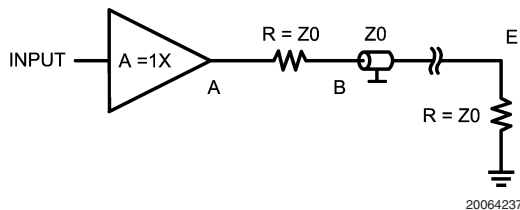
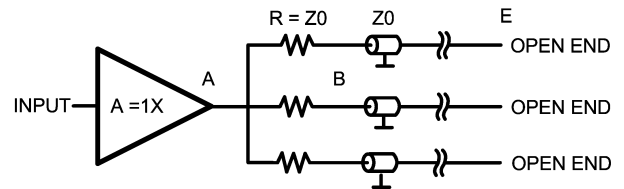
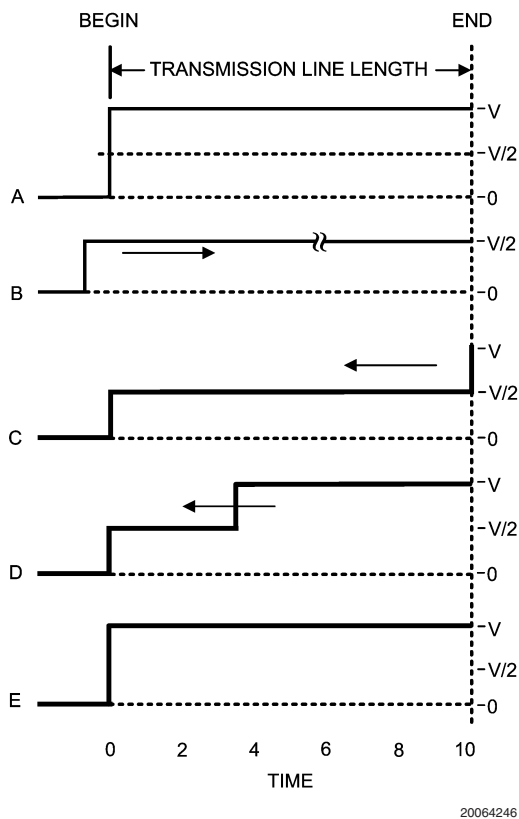

FIGURE 1.
FIGURE 3.
FIGURE 6.
- Use one buffer to drive one transmission line (see *Figure 1*)
- Use one buffer to drive several transmission lines each driving a different receiver. (see *Figure 3*)
In most cases, it is unrealistic to think that we can place a driver or buffer so close to the load that we don't need a transmission line to transport the signal. The pcb trace length between a driver and the load may affect operation depending upon the operating frequency. Sometimes it is possible to do measurements by connecting the DUT directly to the analyzer. As frequencies become higher the short lines from the DUT to the analyzer become long lines. When this happens there is a need to use transmission lines. The next point to examine is what happens when the load is connected to the transmission line. When driving a load, it is important to match the line and load impedance, otherwise reflections will occur and this phenomena will distort the signal. If a transient is applied at $T = 0$ (*Figure 6*, trace A) the resultant waveform may be observed at the start point of the transmission line. At this point (begin) on the transmission line the voltage increases to (V) and the wave front travels along the transmission line and arrives at the load at $T = 10$. At any point across along the line $I = V/Z_0$, where Z_0 is the impedance of the transmission line. For an applied transient of 2V with $Z_0 = 50\Omega$ the current from the buffer output stage is 40mA. Many vintage op amps cannot deliver this level of current because of an output current limitation of about 20mA or even less. At $T = 10$ the wave front arrives at the load. Since the load is perfectly matched to the transmission line all of the current traveling across the line will be absorbed and there will be no reflections. In this case source and load voltages are exactly the same. When the load and the transmission line have unequal values of impedance a different situation results. Remember there is another basic which says that energy cannot be lost. The power in the transmission line is $P = V^2/R$. In our example the total power is $2^2/50 = 80\text{mW}$. Assume a load of 75Ω. In that case a power of 80mW arrives at the 75Ω load and causes a voltage of the proper amplitude to maintain the incoming power.
Many applications, such as video, use a series resistance between the driver and the transmission line (see Figure 1). In this case the transmission line is terminated with the characteristic impedance at both ends of the line. See Figure 6 trace B. The voltage traveling through the transmission line
Another way to reach several points via a transmission line is to start several lines from one buffer output (see Figure 3). This is possible only if the output can deliver the needed current into the sum of all transmission lines. As can be seen in this figure there is a series termination used at the beginning of the transmission line and the end of the line has no termination. This means that only the signal at the endpoint is usable because at all other points the reflected signal will cause distortion over the line. Only at the endpoint will the measured signal be the same as at the startpoint. Referring to Figure 6 trace C, the signal at the beginning of the line has a value of $V/2$ and at $T = 0$ this voltage starts traveling towards the end of the transmission line. Once at the endpoint the line has no termination and 100% reflection will occur. At $T = 10$ the reflection causes the signal to jump to $2V$ and to start traveling back along the line to the buffer (see Figure 6 trace D). Once the wavefront reaches the series
termination resistor, provided the termination value is Z_0 , the wavefront undergoes total absorption by the termination. This is only true if the output impedance of the buffer/driver is low in comparison to the characteristic impedance Z_0 . At this moment the voltage in the whole transmission line has the nominal value of 2V (see Figure 6 trace E). If the three transmission lines each have a different length the particular point in time at which the voltage at the series termination resistor jumps to 2V is different for each case. However, this transient is not transferred to the other lines because the output of the buffer is low and this transient is highly attenuated by the combination of the termination resistor and the output impedance of the buffer. A simple calculation illustrates the point. Assume that the output impedance is 5Ω . For the frequency of interest the attenuation is $V_B/V_A=55/5=11$, where A and B are the points in Figure 3. In this case the voltage caused by the reflection is $2/11 = 0.18V$. This voltage is transferred to the remaining transmission lines in sequence and following the same rules as before this voltage is seen at the end points of those lines. The lower the output resistance the higher the decoupling between the different lines. Furthermore one can see that at the endpoint of these transmission lines there is a normal transient equal to the original transient at the beginning point. However at all other points of the transmission line there is a step voltage at different distances from the startpoint depending at what point this is measured (see trace D).